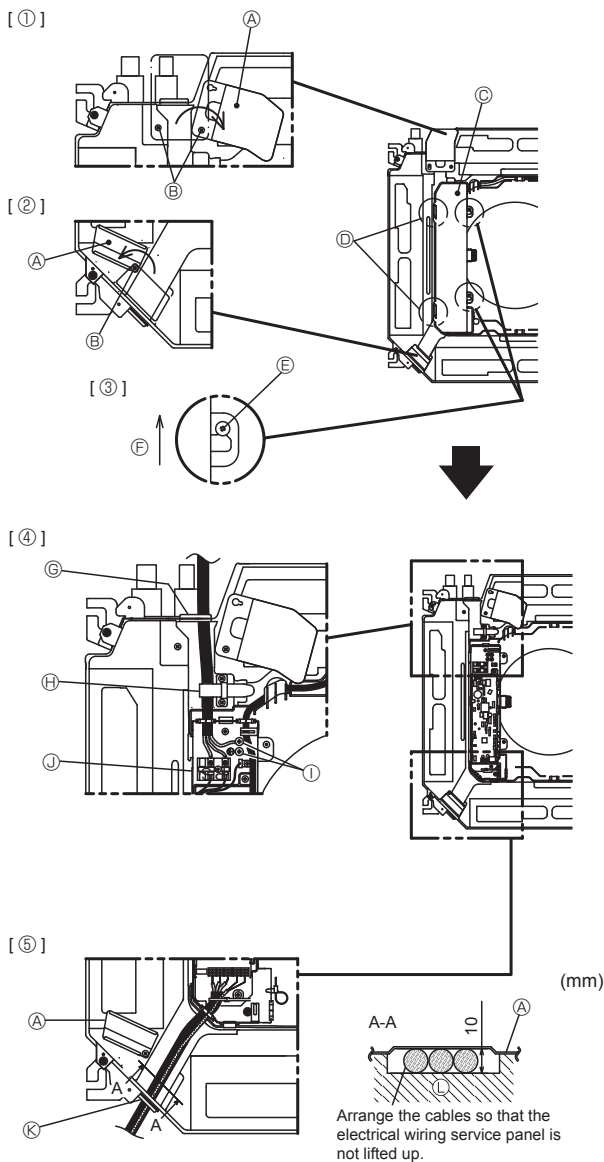

Fig. 5-1
5.1. Indoor unit (Fig. 5-1)
1. Loosen the two screws securing the electrical wiring service panel, and then turn the electrical wiring service panel. [Fig. 5-1 ①]
2. Loosen the one screw securing the electrical wiring service panel at the cable entry (remote controller cable and indoor-outdoor connection cable), and then turn the service panel to the position shown in the diagram. [Fig. 5-1 ②]
3. Loosen the two screws securing the electrical box cover, then slide the electrical box cover. [Fig. 5-1 ③]
4. Pass and wire the power cable and the earth cable through the wiring entries given in the diagram. [Fig. 5-1 ④]
5. Pass and wire the remote controller cable and the indoor - outdoor connection cable through the wiring entries given in the diagram. [Fig. 5-1 ⑤, Fig. 5-2, Fig. 5-3]